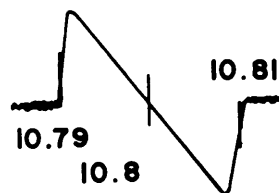

Figure 3
6. Adjust T5 so that 10.80 mHz is in center of discriminator curve and for best linearity. See Figure 3.